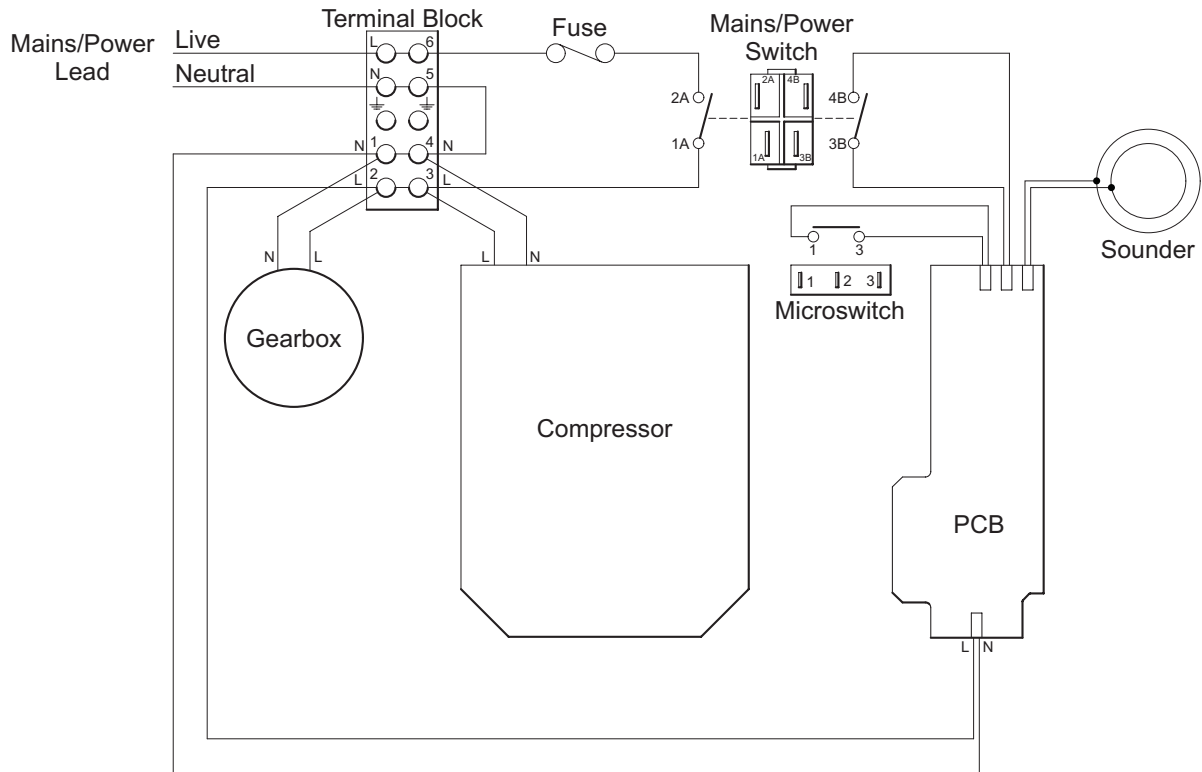
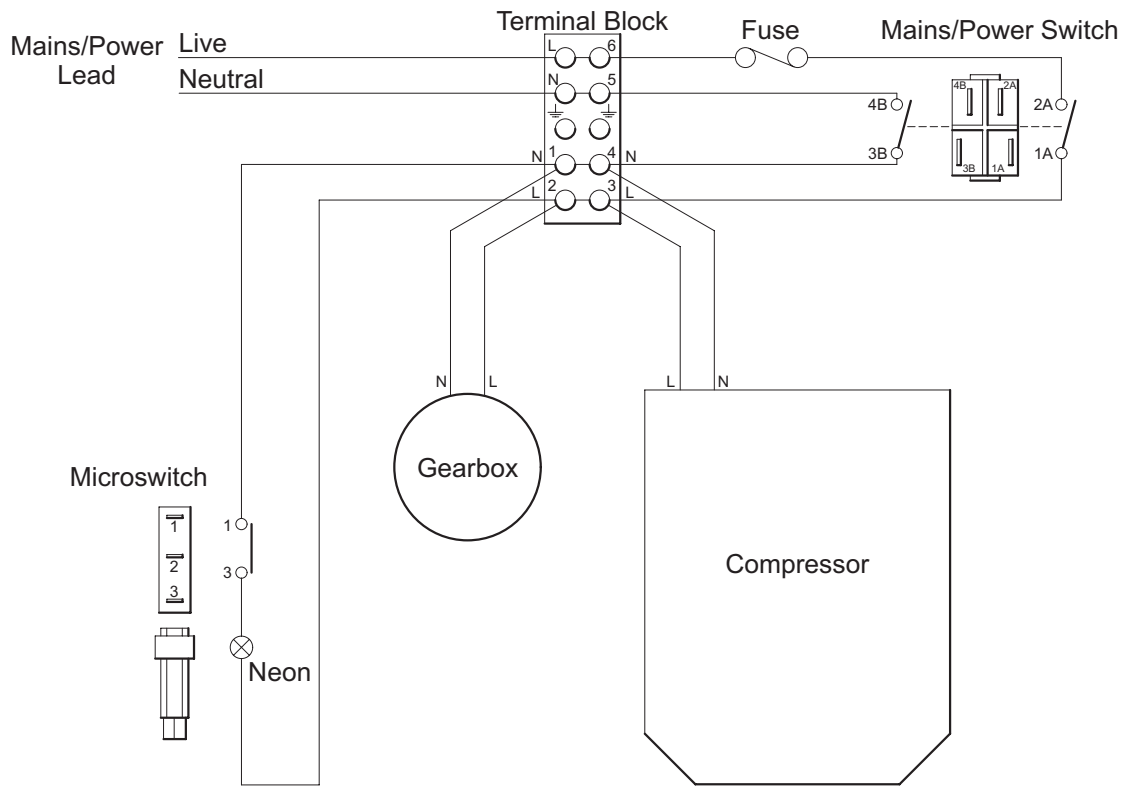

Figure 24 - Circuit diagram for Alpha Relief, Aura and AlphaXcell (Electronic) Mini Pumps
Figure 25 - Circuit diagram for AlphaXcell, AlphaBed, AlphaCare and Alpha TranCell (Mechanical) Mini Pumps
The circuit diagram for the electronic models is given in Fig 24. The circuit diagram for mechanical models is given in Fig 25. Check for the above faults against the relevant circuit and repair as appropriate.
- 1.8.2 Connect a buzzer or LED to the microswitch terminals to indicate microswitch operation (see Chap 4, Fig 24 for microswitch terminal connections).